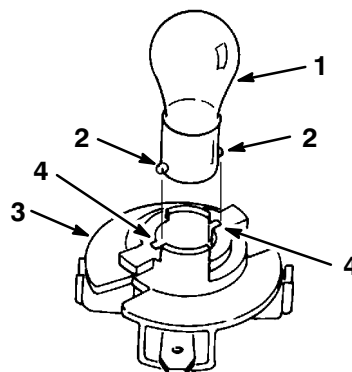

Figure 48
4. Push and rotate the bulb counterclockwise until it stops (approx. 1/4 turn) and remove the bulb from the bulb holder (Fig. 48).
1. The bulb has metal pins on the side of its base. Align the pins with the slots in the bulb holder and insert the base into the holder (Fig. 48). Push and rotate the bulb clockwise until it stops.